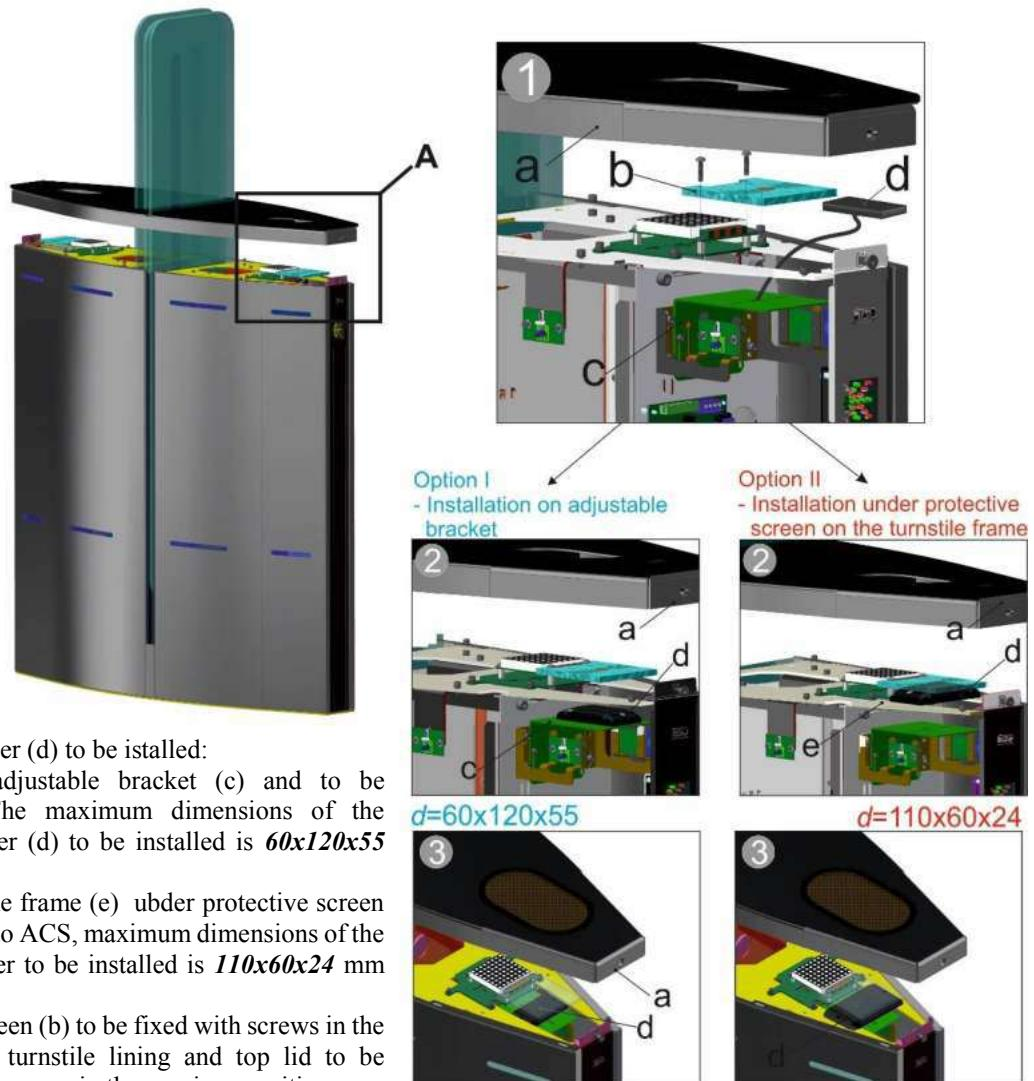

Fig.22 – Installation of proximity card reader
7) Installation of proximity card reader upon availability of access control system (ACS) (See Fig. 22).